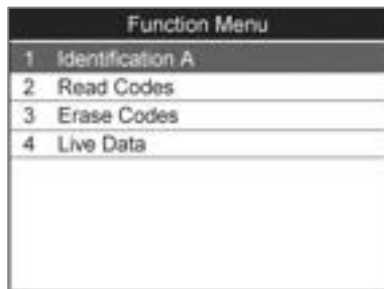

Figure 11.3
- 1) From the function menu (Figure 11.3) use the **UP/DOWN** scroll button to select **Read Codes** and press the **OK** button.
- 1) From the function menu (Figure 11.3) use the **UP/DOWN** scroll button to select **Erase Codes** and press the **OK** button.
- 1) From the function menu (Figure 11.3) use the **UP/DOWN** scroll button to select **Live Data** and press the **OK** button.
- 1) From the function menu (*Figure 11.3*) use the **UP/DOWN** scroll button to select **Identification A** and press the **OK** button.